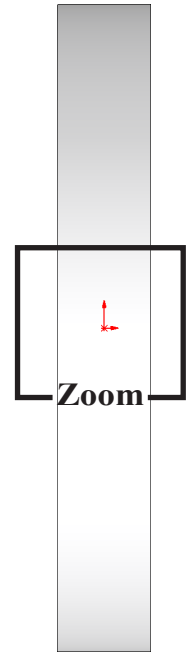

Fig. 6
Step 3. Zoom in around the Origin , **Fig. 6**.